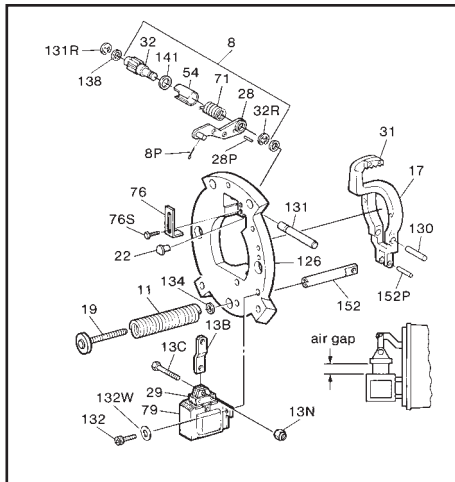

Figure 6
G. Reassemble friction disc (be sure friction discs slide freely), spring (if vertical), stationary discs, and pressure plate in correct sequence and position. All parts must slide freely. The universal mounting pressure plate presently used has three tapered reliefs on outboard face. However, some older brakes used a pressure plate with a single tapered relief marked top, which must be installed with relief facing manual release rod (146).
H. Mount support plate assembly, torque screws to 50 in-lbs in endplate. Conical spring washer installed under the screw head. Flat washer used under the conical spring washer only with aluminum support plate. Be sure that assembly is mounted with the solenoid in a vertical position (plunger above frame) as shown when brake is horizontal. If release rod (146) is not in manual release position and has allowed the mechanism to overadjust, it will have to be reset before mounting support plate. In this case, the lever arm (17) throat will be near, or touching, the pinion (32) teeth. Refer to Figure 6 and *Self-Adjust Maintenance*. Loosen pressure spring cap screw (19) until pressure spring (11) is free, mount support plate assembly to endplate and retighten spring cap screw until snug. Do not overtighten! Torque to a maximum of 8 ft-lbs.
### C. Self-adjust maintenance (See Figure 6)